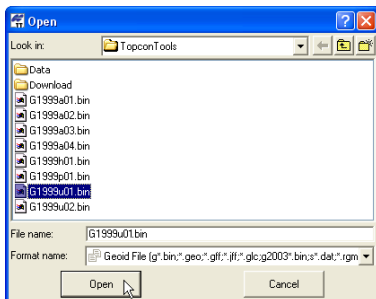

Figure 3-4. Add Geoid Model
When defining a geoid model for a job, all point heights change from ellipsoidal heights to orthometric heights (Figure 3-4).
4. Select a geoid file and click **Open** (Figure 3-4).